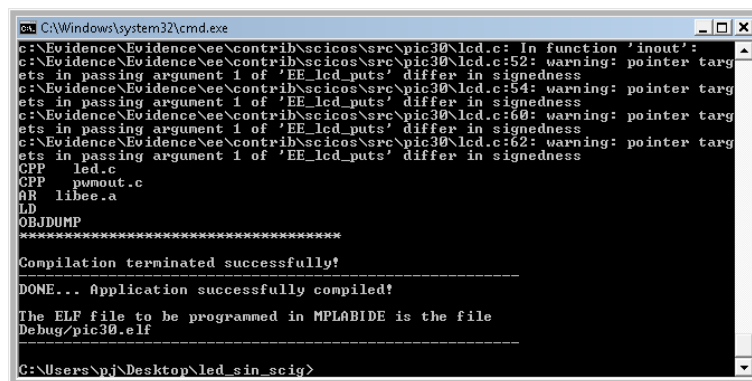

Figure 5.19: The compilation console.
5. The result of the code generation process is depicted in Figure 5.19. The executable file is named `pic30.elf` and it is located inside the `Debug` directory as usual for all the Erika Enterprise applications.